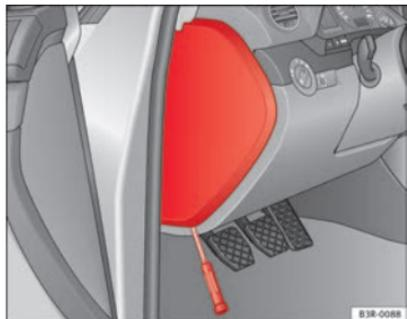

Fig. 189 Fuse box cover on the left side of the dash panel.
- *Opening:* Remove the fuse box cover using a screwdriver ⇒ Fig. 189.